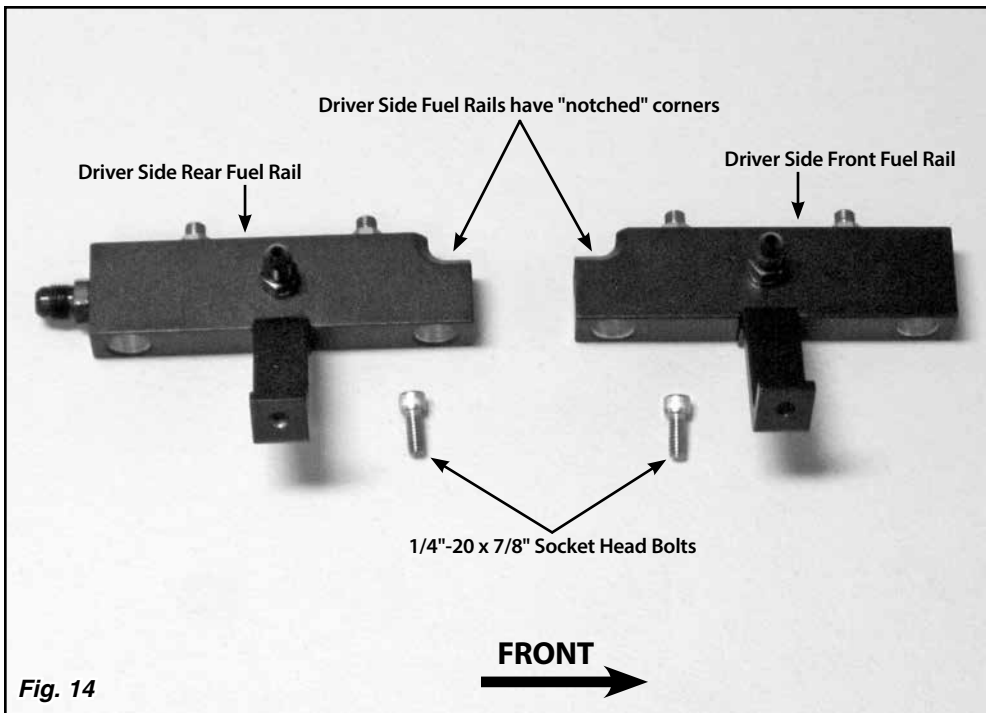

Fig. 14
Step 14: Determine the correct position of the four fuel rails on the lower manifold. Note the driver side rear and passenger side rear fuel rails (with the -6 AN fittings on the ends) will be installed with the -6 AN fittings pointing towards the rear of the engine. Two of the fuel rails are "notched" in one corner to provide clearance for the throttle body adapter and will be installed on the driver side of the manifold. **Fig. 14**